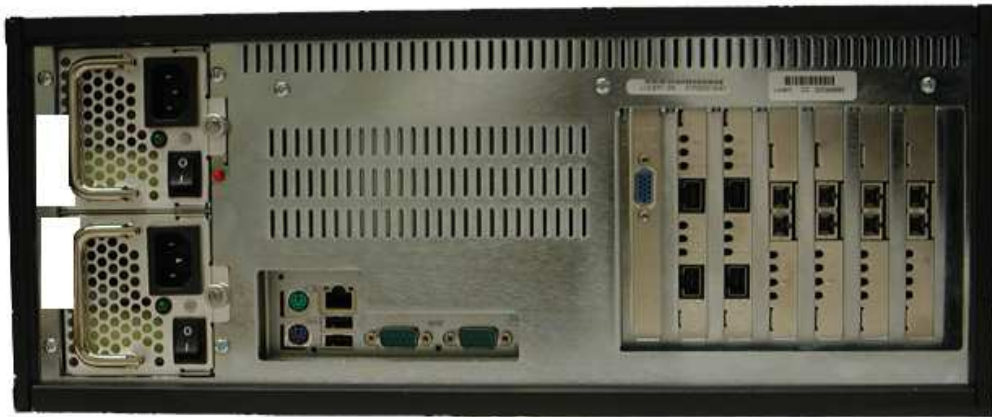

Figure 16 – Brick 1100 Tamper Evidence Label Placement
2. Having the front cover facing you, place the first label on the top left of the module as shown in Figure 16. The tamper evidence label should be placed so that the one half of the tamper evidence label covers the top of the chassis and the other half covers the left side of the chassis. Any attempt to remove the enclosure will leave tamper evidence.
3. Place the second label on the chassis as shown in Figure 16. The tamper evidence label should be placed so that one half of the tamper evidence label covers the top of the chassis and the other half covers the right side of the chassis. Any attempt to remove the enclosure will leave tamper evidence.
4. Place the third label on the chassis as shown in Figure 16. The tamper evidence label should be placed so that the one half of the tamper evidence label covers the top of the front panel cover of the chassis and the other half covers the front of the top of the chassis. Any attempt to remove the enclosure or open the front panel cover will leave tamper evidence.
5. Place the fourth label on the back right of the module as shown in Figure 16. The tamper evidence label should be placed so that the one half of the tamper evidence label covers the back panel of the enclosure and the other half covers the first power supply. Any attempt to remove the enclosure will leave tamper evidence.
6. Place the fifth label on the back right of the module as shown in Figure 16. The tamper evidence label should be placed so that the one half of the tamper evidence label covers the back panel of the enclosure and the other half covers the redundant power supply. Any attempt to remove the enclosure will leave tamper evidence.
7. Place the sixth label on the back of the module as shown in Figure 16. The tamper evidence label should be placed so that the tamper evidence label covers the far left screw, the chassis, and the top of the opacity shield. Any attempt to remove the enclosure will leave tamper evidence.
8. Place the seventh label on the back of the module as shown in Figure 16. The tamper evidence label should be placed so that the tamper evidence label covers the middle screw, the chassis, and the top of the opacity shield. Any attempt to remove the enclosure will leave tamper evidence.
9. Place the eighth label on the back of the module as shown in Figure 16. The tamper evidence label should be placed so that the tamper evidence label covers the far right screw, the chassis, and the top of the opacity shield. Any attempt to remove the enclosure will leave tamper evidence.